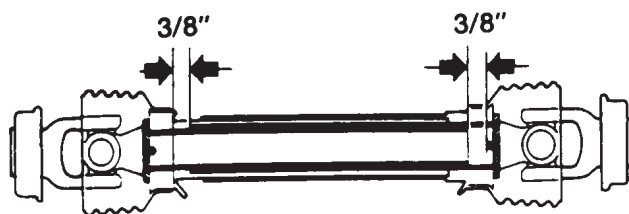

Figure 9
5. Install the IID shaft on the tractor and mower. Raise and lower the mower to check for shaft contact (bottoming-out) with the mower yoke end. At the maximum compressed point, the shaft should look like **Figure 9**. Make sure that at least 4" of the inner shaft remains engaged in the outer shaft at all times.